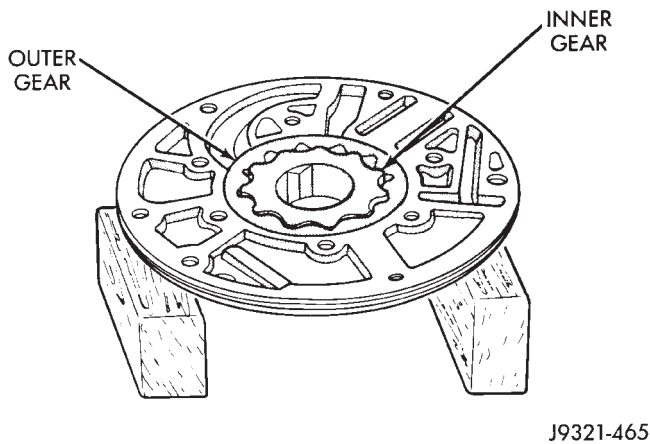

Fig. 130 Pump Inner Gear Installation
(5) Install pump inner gear (Fig. 130).